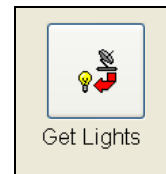

Figure 6.11.1
1. From the List of icons to the right of the “**Speed Communications**” screen select the **Get Lights** Icon (Figure 6.11.1).